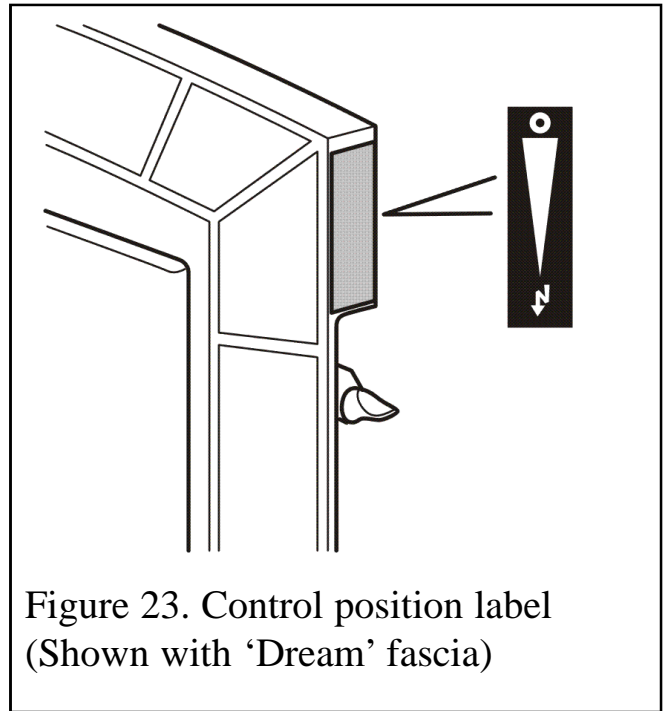

Figure 23. Control position label (Shown with 'Dream' fascia)
1. Supplied with the fire is a self adhesive control position label. Peel the backing from the label and place as in figure 23.